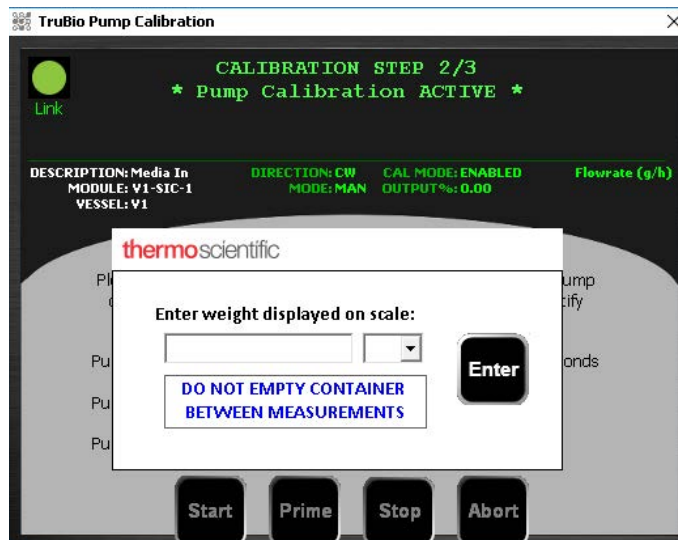

Figure 2.38. Screen for entering weight displayed on scale.
9. At the end of the pump activations (the default is 15 seconds), the user will be prompted to enter the weight recorded on the scale (Figure 2.38). **DO NOT** tare or zero the scale between measurements. Do not empty the receiver container between measurements.